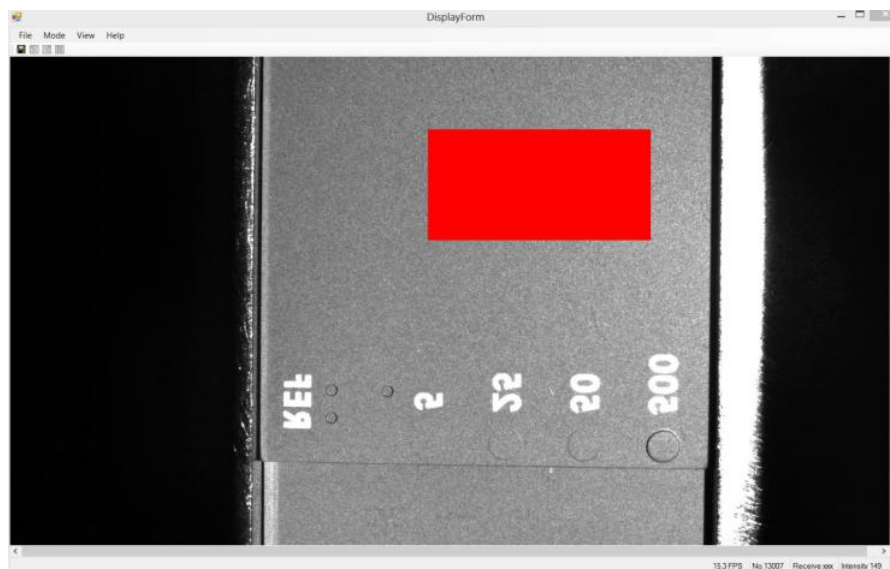

Figure 55 Display Form Dialog Box
57. A Dialog box with live View will be illustrated as below Figure 55.